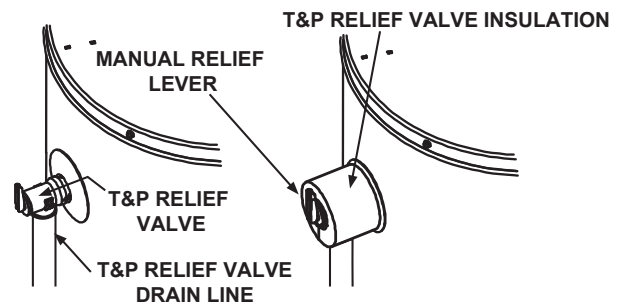

FIGURE 15B.
1. Locate the temperature and pressure relief valve on the water heater (also known as a T&P relief valve). See Figure 15B.
3. Spread the slit open and fit the insulation over the T&P relief valve. See Figure 15B. Apply gentle pressure to the insulation to ensure that it is fully seated on the T&P Relief Valve. Once seated, secure the insulation with duct tape, electrical tape, or equivalent.
IMPORTANT: The insulation or tape should not block or cover the T&P relief valve drain opening. Also, the insulation or tape should not block or hinder access to the manual relief lever (Figure 15B). Ensure that a discharge pipe is installed into the T&P valve discharge opening per the instructions in this manual.